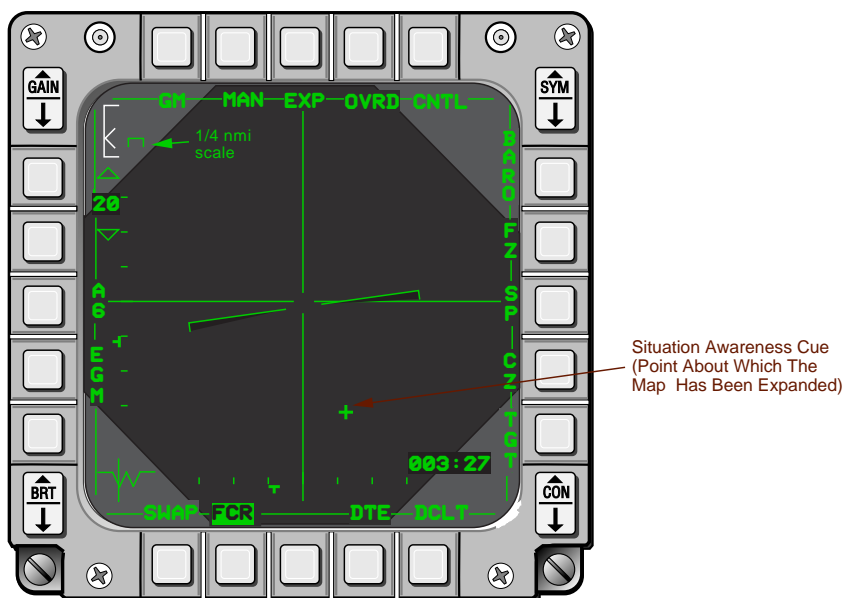

Figure 5-6 GM or SEA Expanded Field of View
**Expanded Field of View.** The Expanded FOV (EXP) format allows the pilot to more precisely refine the radar cursors over the desired point (Figure 5-6). After positioning the cursors over the desired radar point, expanded FOV is entered by depressing OSB 3 or hands-on with the pinky switch on the stick.